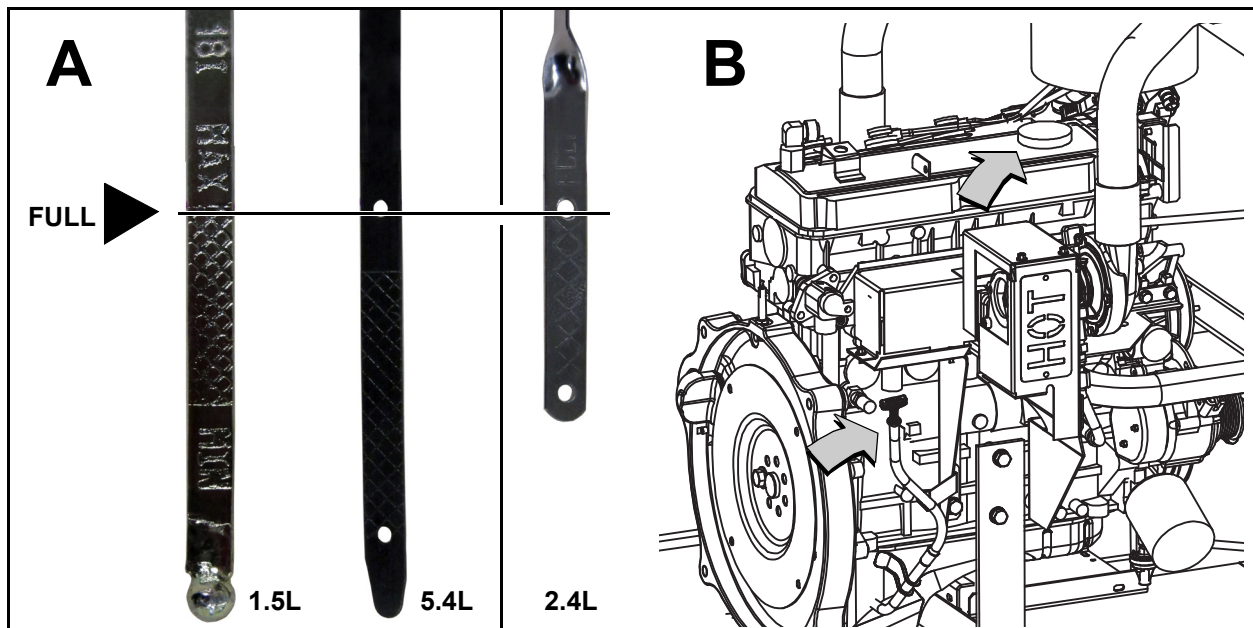

Figure 5-7. Oil Level Dipstick and Oil Fill Cap
2. Remove the dipstick and wipe dry with a clean, lint free cloth. See B of Figure 5-7
- Verify that the oil level is at or near the FULL mark. Add oil as necessary. See A of Figure 5-7